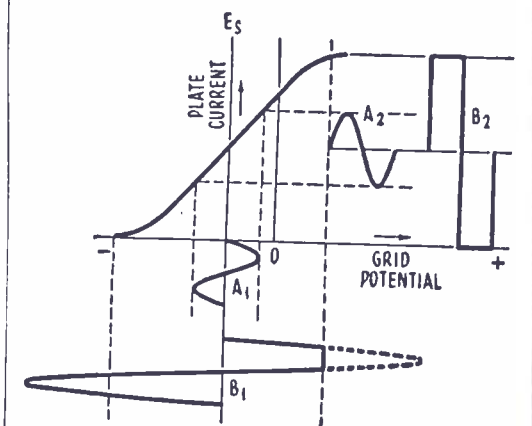

Fig. 14—Waveform from overdriven amplifier.
All that is required is an input signal of such great amplitude that (1) it drives the amplifier tube far into the cut-off region on negative alternations, and (2) it drives the tube far beyond the saturation region on positive alternations (Fig. 14).
Referring to Fig. 14, assume that the normal input A_1 of 50 volts results in a linear output A_2 . The triode, however, is purposely operated with an excessive input B_1 of 400 volts, or higher. Then, as the grid swings positive a condition of saturation will be reached quickly—and the output B_2 will have risen to its greatest possible value. As the grid attempts to go more positive due to the driving influence of the input signal,